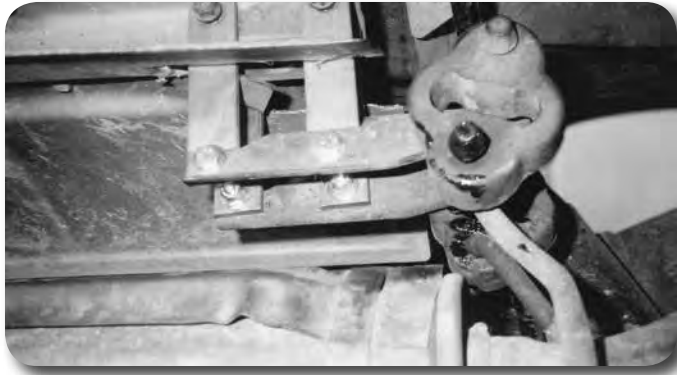

Figure 10
44. Install modified hanger on vehicle through access slot cut in heat shield. Use two 1/4"-20 x 2-3/4" bolts, two 1/4" lock nuts, and four 1/4" SAE washers, attach the exhaust hanger through the relocating bracket, through the original mounting hole, and through the opposite bracket **Figure 10**.